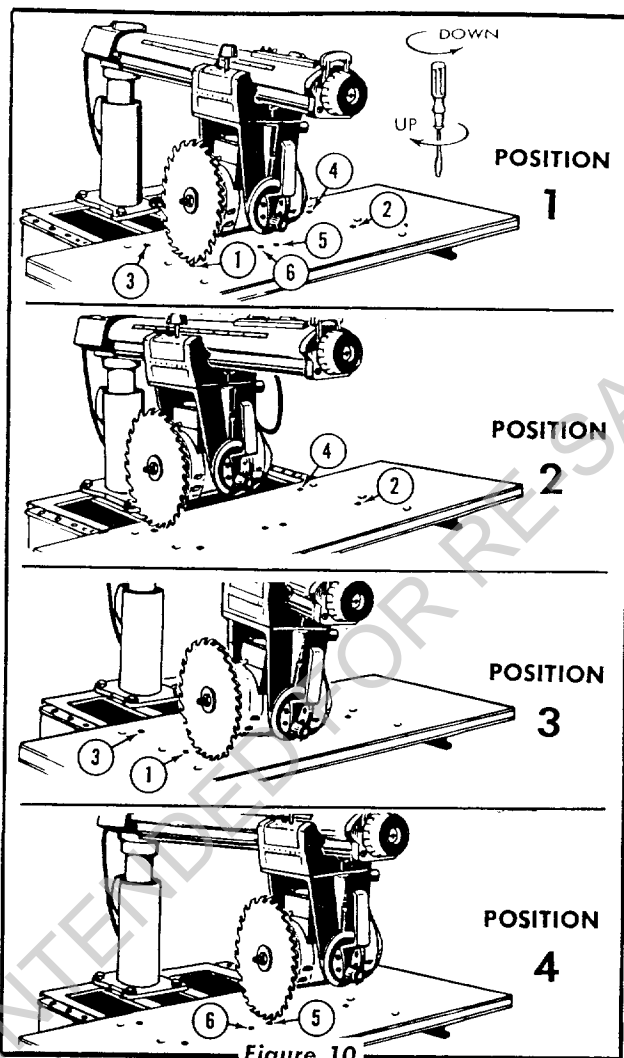

Figure 10
- Release the arm latch (1, figure 1) and carriage lock (5) for easy movement of saw blade during the leveling operation. Lower the blade and move it to points 1, 2, 3 and 4 (POSITION 1, figure 10) to find at which of these points the blade first touches the top of the table.
- Swing the blade to front of table on left-hand side. Adjust leveling screws at points (3 and 1, POSITION 3, figure 10).
- Move the saw blade to all four leveling screw positions to recheck for proper leveling of table. (Points 1 through 4, POSITION 1, figure 10.)
- Move the saw blade to center of table. If the table is low at this point, raise it by adjusting the leveling screw (point 5, POSITION 4). It may be necessary to back off the screw (6) to provide proper clearance.
- If the table is high at the center, lower it by tightening the screw (6). When the table is level, rotate the set screw (5) clockwise until it bottoms on the base. This will serve as a lock for the adjustment of screw (6).